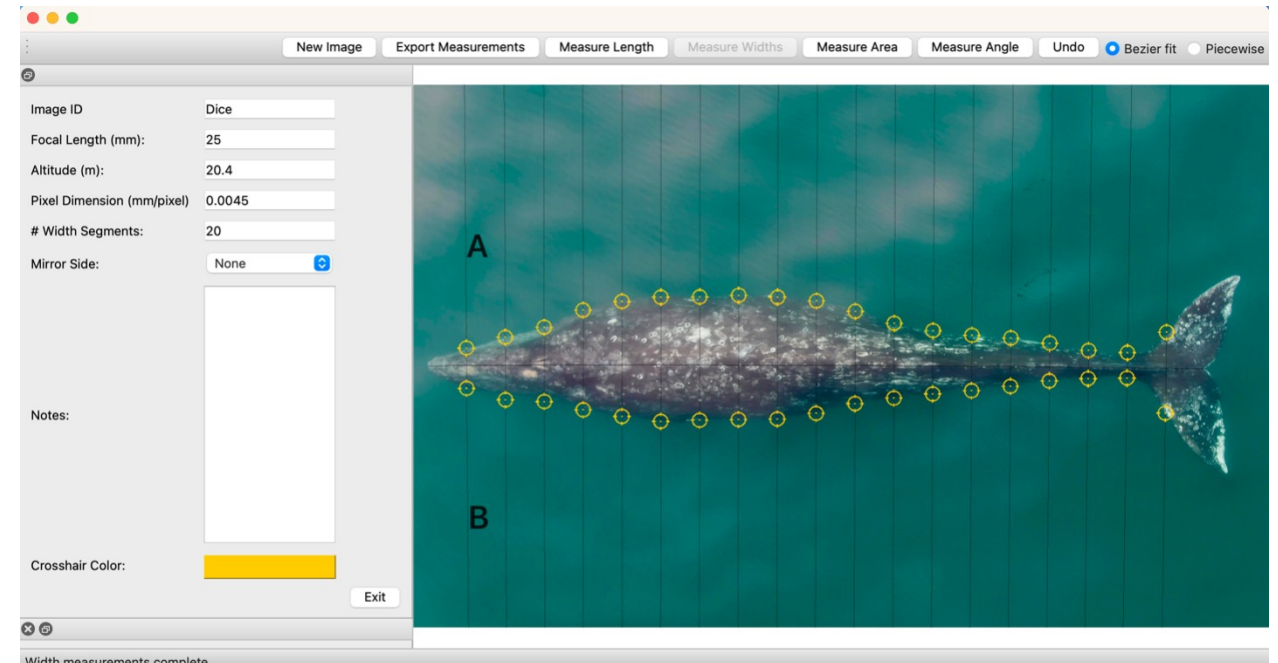

Figure 11. Width measurements complete.
- Continue adjusting each crosshair until satisfied with the edges selected (Figure 11).